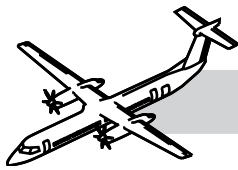

Figure 29-69. Hydraulic Access Door
- Figure 29-69. Hydraulic Access Door.